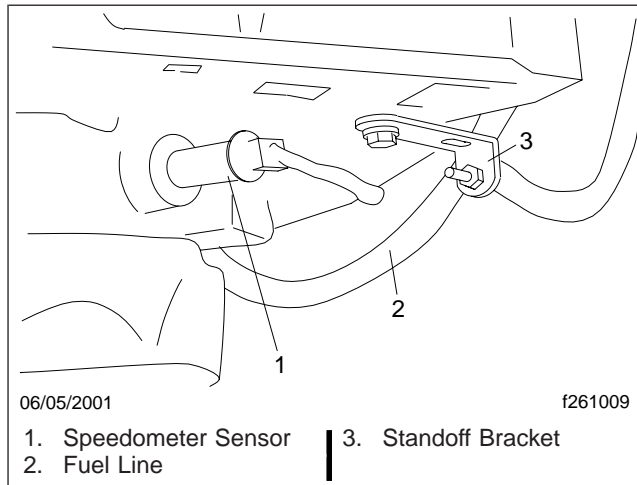

Fig. 7, Fuel Line Standoff Bracket and Speedometer Sensor
5. Remove the fuel lines and the fuel line standoff bracket from the transmission. See Fig. 7.
10. Disconnect the electrical cable from the speedometer sensor and mark it with a paint pen for ease of installation. See Fig. 7.